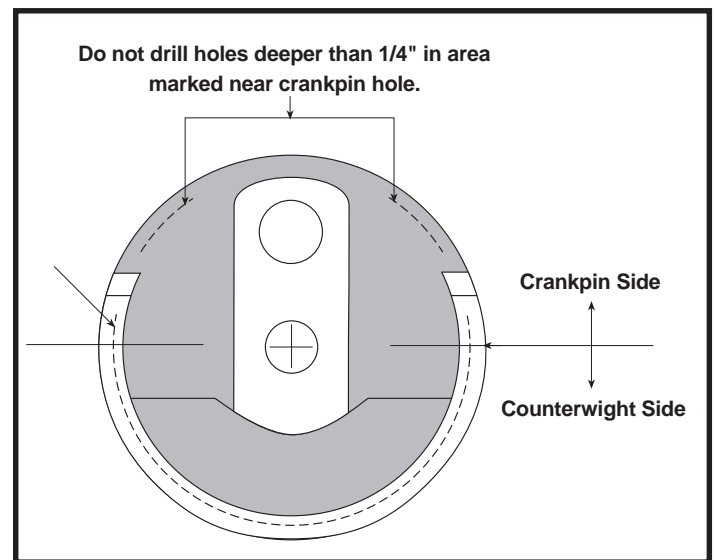

Figure 4
- E. Before drilling see **Figure 4** for recommended areas to drill. See notes on page 7 for drilling rules and additional information.
- Drill holes in center of face along dotted line in diagram. (See **Figure 4**) Leave $\frac{3}{16}$ " of material to avoid breaking out of back side of flywheel.